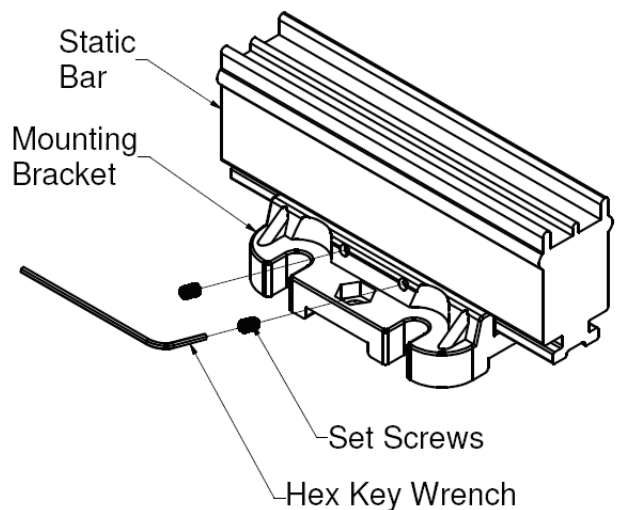

Figure 4. Securing the Static Bar
NOTE – There should be **NO** grounded metal such as an idler roller immediately behind the web on the far side from the static bar. The area behind the static bar should be as free as possible from grounded metal. Refer to Figure 4.
7. Locate the set screws and the hex key wrench and install two (2) set screws into the holes in the side of the mounting bracket. The set screws engage the “T” slot on the back of the bar securing it in place (Figure 4).